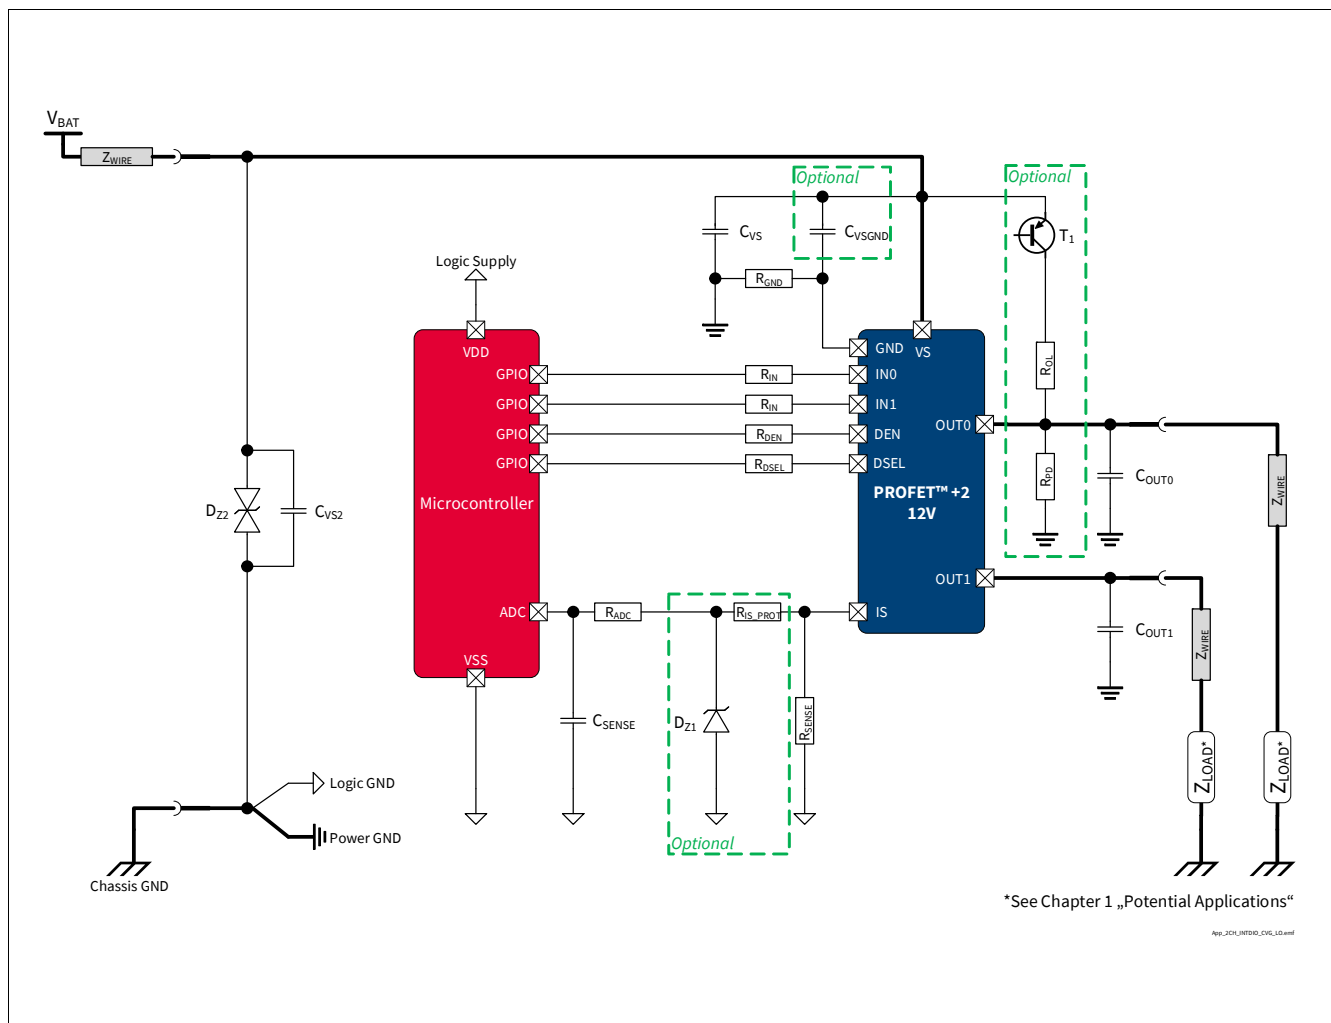

Figure 43 **BTS7012-2EPA Application Diagram**
1.05 , 2019-10-15	P_8.7.3.1, P_8.7.3.7, P_8.7.3.8 updated (added in Note or Test Condition: link to Figure 25) P_7.5.3.4, P_7.5.3.5 updated (added in Note or Test Condition: DEN = “low”; link to Figure 19) P_7.5.3.12 updated (added in Note or Test Condition: see Figure 21 ; deleted unnecessary space in Symbol: $ dV_{OUT} / dt \rightarrow dV_{OUT} / dt $) P_8.7.3.6 updated (added in Note or Test Condition: see Figure 26) P_9.7.3.1 updated (added in Note or Test Condition: See Figure 34) P_9.7.3.6 updated (Min./Typ./Max.: -45%/4800/+45% → -34.0%/4875/+34.0%) P_9.7.3.9 updated (Min./Typ./Max.: -38%/4800/+38% → -25.0%/4875/+25.0%) P_9.7.3.12 updated (Min./Typ./Max.: -34%/4800/+34% → -22.5%/4875/+22.5%) P_9.7.3.15 updated (Min./Typ./Max.: -22%/4800/+22% → -12.5%/4875/+12.5%) P_9.7.3.17 updated (Min./Typ./Max.: -9%/4800/+9% → -7.7%/4875/+7.7%) P_9.7.3.19 updated (Min./Typ./Max.: -6%/4800/+6% → -4.5%/4875/+4.5%) P_9.7.3.21 updated (Min./Typ./Max.: -5%/4800/+5% → -4.0%/4875/+4.0%) P_7.5.3.11 updated (added in Note or Test Condition: see Figure 19) Figure 1 , Figure 43 updated Chapter 1 updated (or LED equivalent → or equivalent electronic loads (e.g. LED modules)) P_4.3.0.7 added Table 24 updated Chapter 5.1 updated (added: see Chapter 10 for the complete application setup overview)